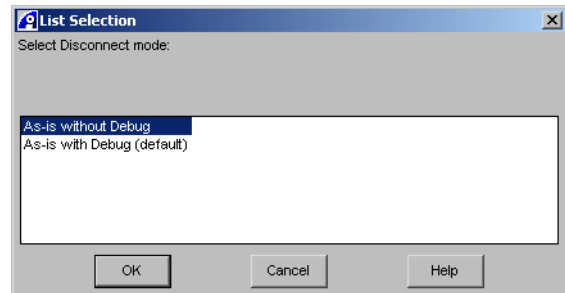

Figure 2-5 Disconnect Mode selection box
2. Select **Disconnect (Defining Mode)...** to display the Disconnect Mode list selection box shown in Figure 2-5.
The selection box, shown in Figure 2-5 on page 2-26, offers one or more state options to disconnect from your target. The options shown depend on the interface software that manages the target connection and so vary depending on the connection entry you select in the Connection Control window. In this example, the selection box contains an entry As-is with Debug (default). This is either the:
You can specify a user-defined disconnect mode to display a prompt to enable you to choose the disconnection mode for each connection. In this case, RealView Debugger displays the Disconnect Mode selection box shown in Figure 2-5 on page 2-26.